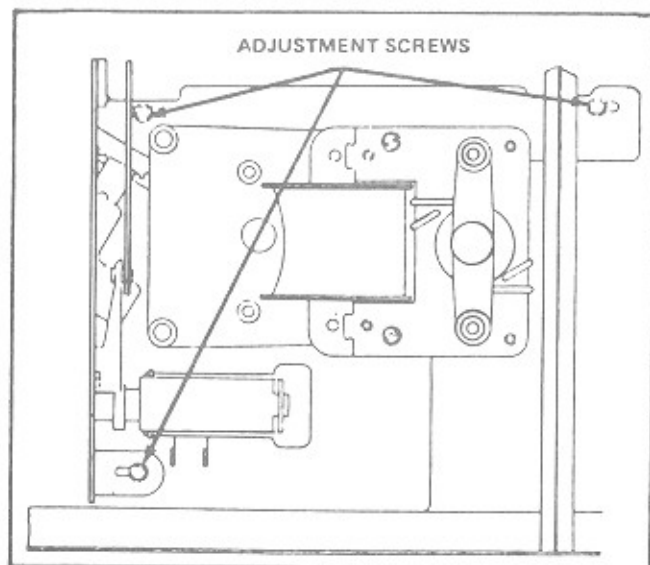

Figure 3-16. Magazine Adjustment
5. With sprag wheel locked, move magazine until record is centered between belt guides. (Adjustment screws will be approximately centered in slots. See Figure 3-16.).